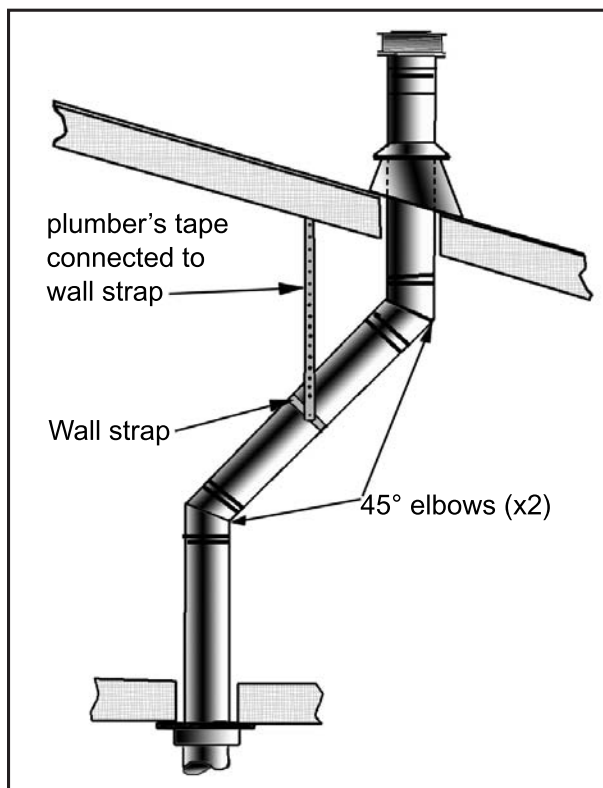

Figure 26: Use of Wall Straps.
(1) If an offset is necessary in the attic to avoid obstructions, it is important to support the vent pipe every 3 feet (91 cm), to avoid excessive stress on the elbows, and possible separation. Wall straps are available for this purpose (see Figure 26).
(2) When ever possible, use 45° degree elbows instead of 90° degree elbows. The 45° degree elbow offers less restriction to the flow of flue gases and intake air.